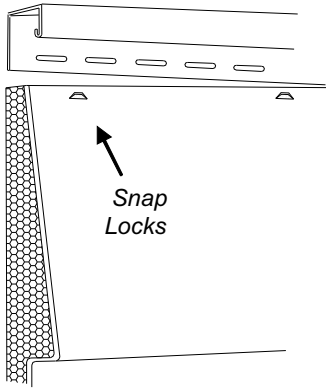

Figure 10.
- **Use a crimping or Snap Lock Tool.** If this method is used, make certain that the panel “snaps” into the receiving J. Depending upon where the rip cut falls the receiver may need to be 1-? ”J or ? ” J. In some cases, a small strip, approx. 1-½” wide X 1/8” to ¼” thick, placed in the J prior to the installation of the panel, is needed to assure positive engagement of the crimps (Make certain the panel fits snugly I the receiving channel). Measure from the soffit to the bottom of the top lock on the previous course of siding. Subtract ¼”. Mark and cut the top course panel. Crimp the I approximately every 6” and install the panel (Fig.10).